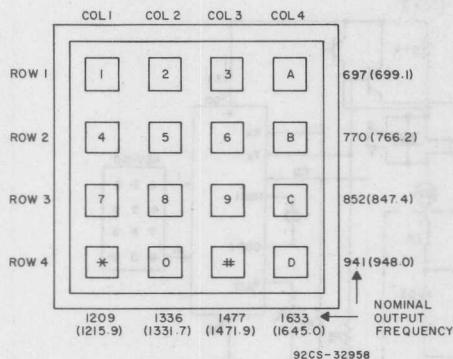

Fig. 1 - Bell and nominal output frequencies (in parenthesis) for 3.579545-MHz crystal.
4. Refer to Fig. 1 for standard DTMF frequencies.